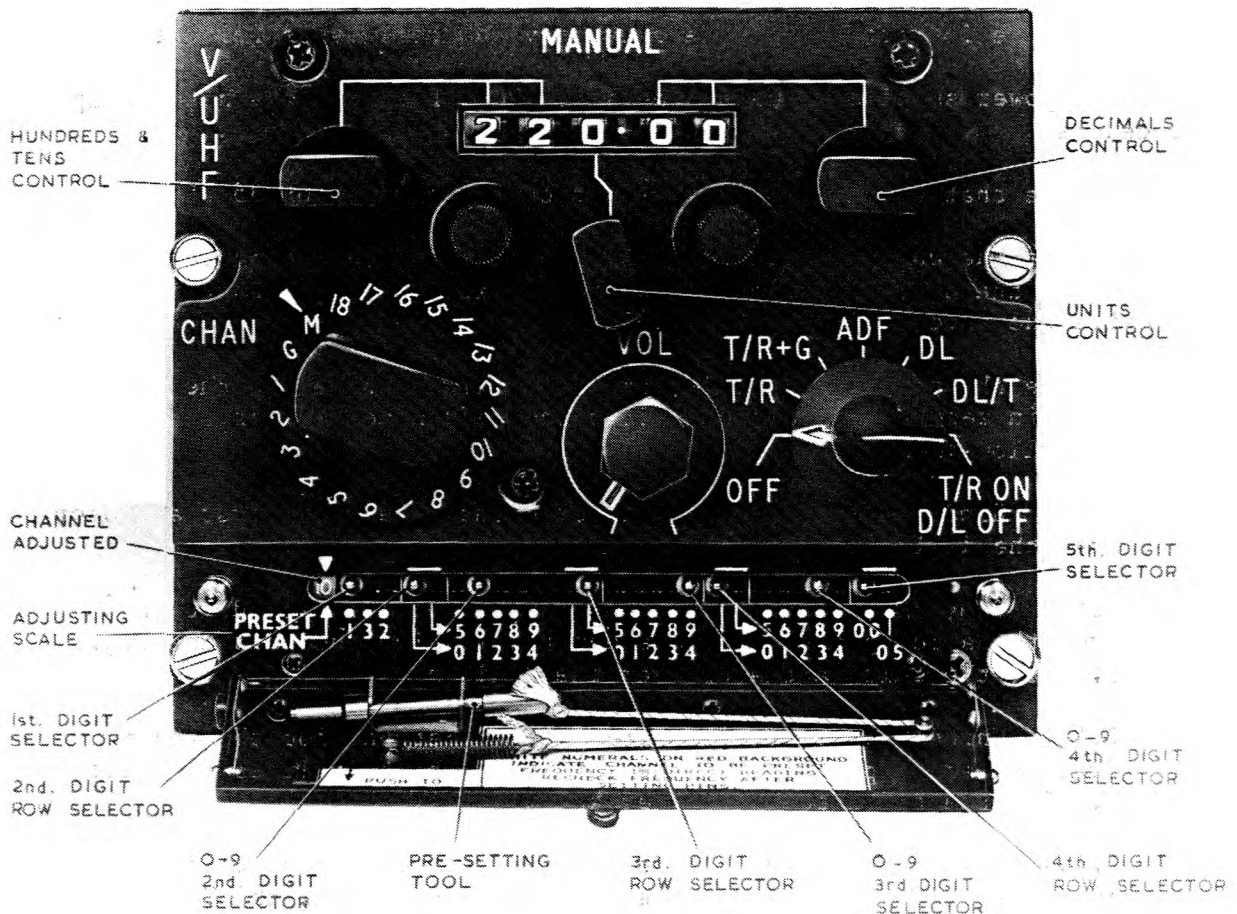

Fig 2 Control, radio set, Type C1607/4, frequency selection
5 Setting up is done by means of switch actuators mounted on a drum, there being one bank of actuators for each channel. A special presetting tool (Fig 2) is provided for sliding the actuators to the required positions. The actuators operate switches mounted inside the control unit. The position of the channel selector switch CHAN determines the bank of actuators which will operate the switches to obtain the operating frequency, and this bank corresponds with the number indicated on the channel selector switch. The bank of actuators accessible for adjustment is that indicated by a white number of a red background at the left-hand end of the scale.
12.3 Adjust each of the MANUAL frequency controls at the top of the control unit front panel to show the desired operating frequency. Fig 2 shows the MANUAL controls set a frequency of 220.00 MHz and Fig 1 shows them set to 121.50 MHz.